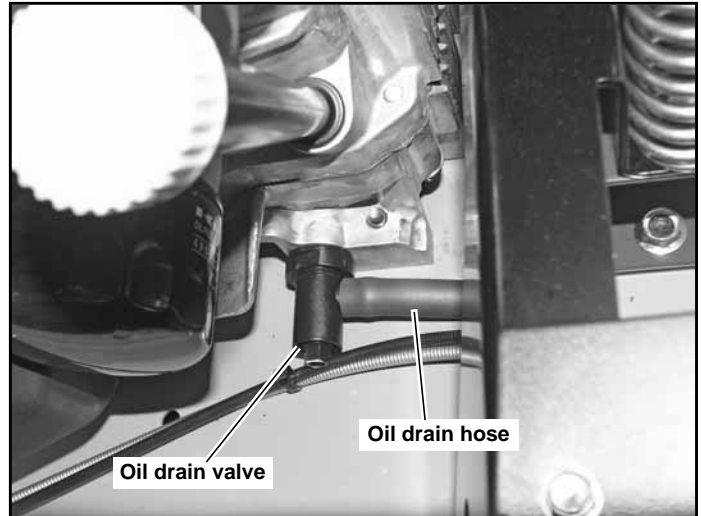

Figure 5-1
2. Locate the oil drain hose that was supplied with the machine. Be sure to clean and clear it of debris that might block the flow of the engine oil. Figure 5-1
8. Clean the oil drain hose and store it appropriately. Figure 5-1